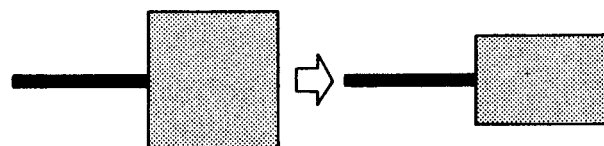

Fig. 5-1
5. ADJUSTMENT AFTER REPLACING THE CYLINDER (Figs. 5-1, 5-2)
- 7) Turn RT1 on the ATF-R jig and check that the waveform always changes while being flat. (See Fig. 5-1) If this cannot be confirmed, adjust the height of the take-up guide roller, referring to "4.4 Supply/Take-up Guide Roller Height Adjustment".